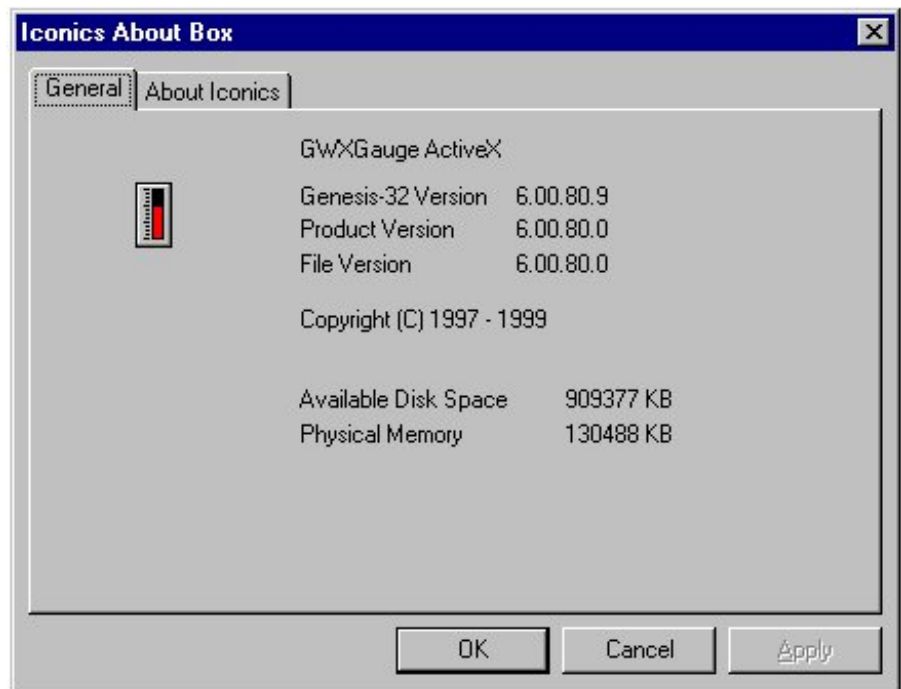

Figure 15-16: Iconics About Box
3. Select the About button. The Iconics About Box appears (Figure 15-16).